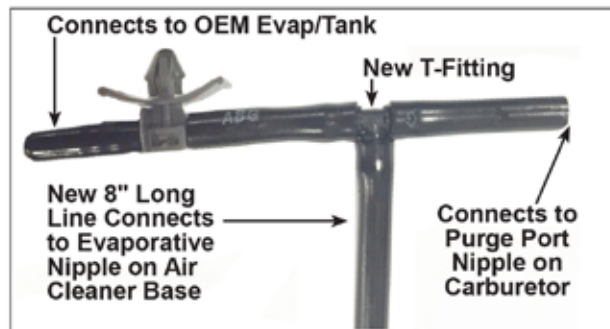

Figure 2. New T-Fitting and New Line Assembly.
3. Install the new T-Fitting at the location of the cut line. Take the new 25 326 28-S 14" long line and cut it to an 8" length. Install and route the new 8" long line as shown in Figure 2.